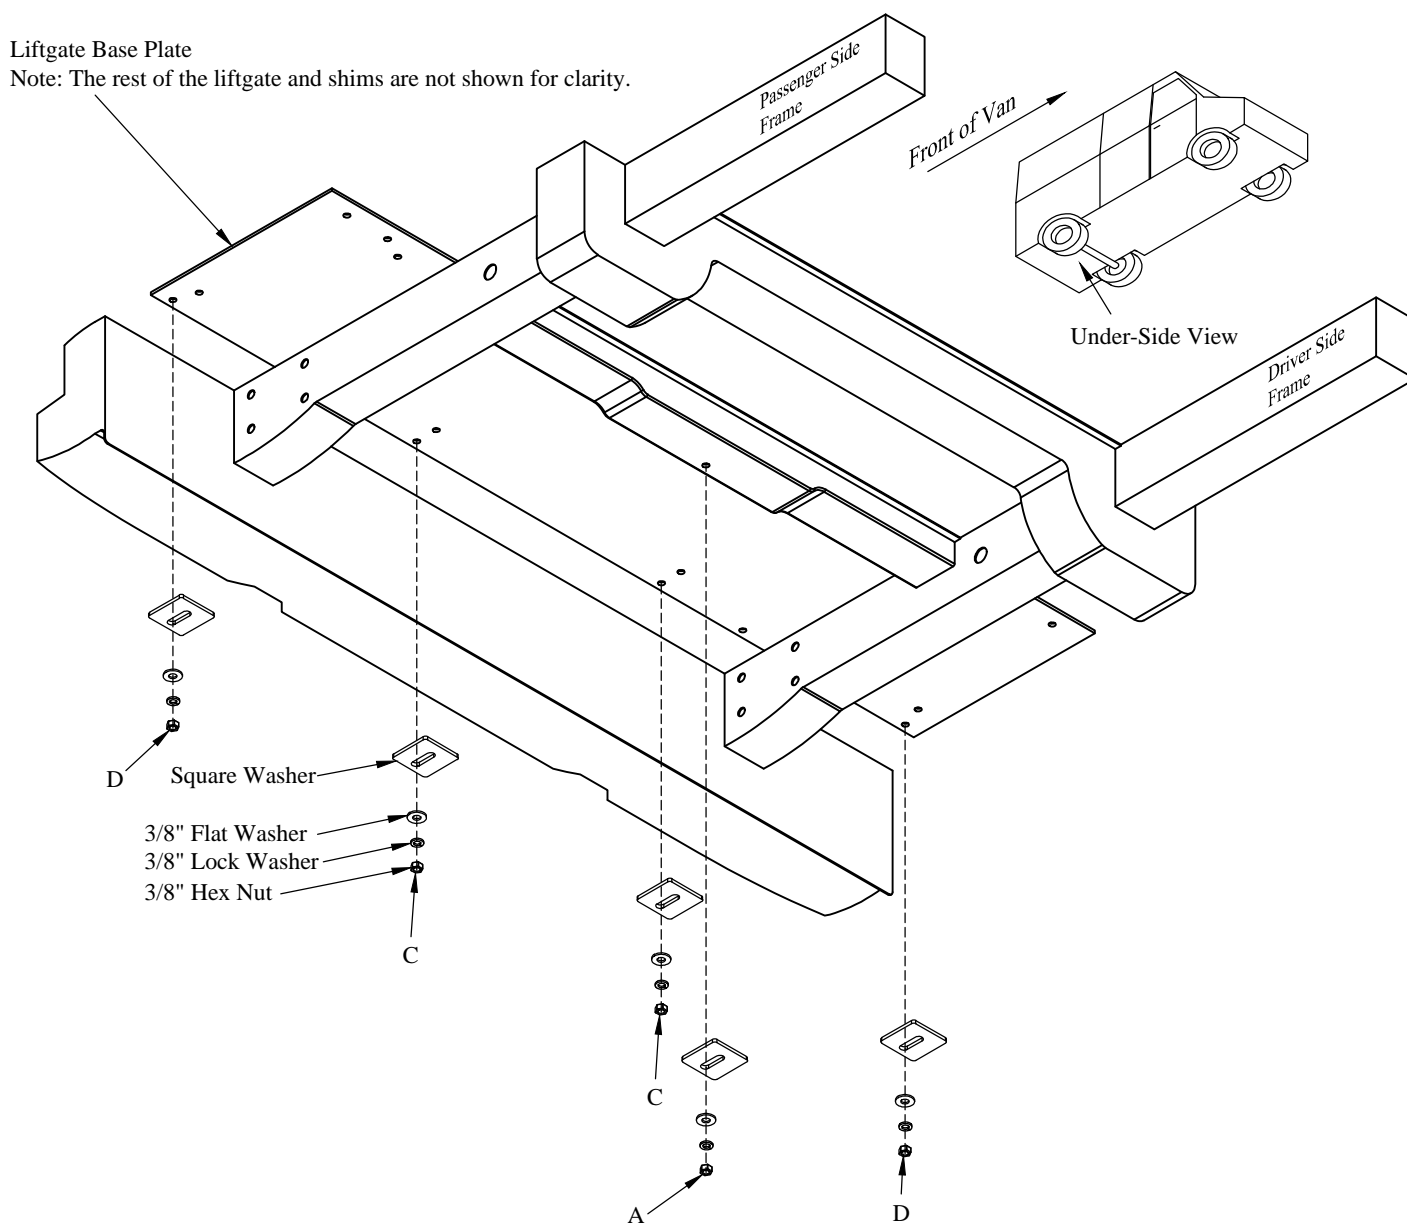

Figure 11: Under-side view of van.
5. **Install** a square washer, 3/8" flat washer, lock washer, and hex nut on each of the "C" and "D" location bolts (Figure 11).
6. **Install** a square washer, 3/8" flat washer, lock washer, and hex nut on the "A" location bolt (Figure 11).
15. **Tighten** the "A", "B", "C", "D", and "F" position nuts in an alternating pattern (Figure 11). Do not over-tighten and warp the base plate or crush the van frame.